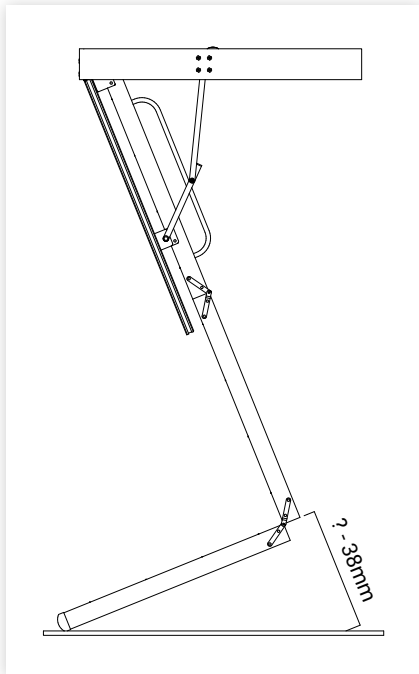

figure 10
1. With the top and middle sections of the ladder open and the bottom section tucked in behind, measure the distance from the bottom of the middle section, to the floor at the same angle as the ladder (figure 10). Do this on both sides.
2. Once you have determined the length of 'x' (figure 10) deduct 38mm. Transfer these measurements to the front of each side of the bottom section of the ladder. Cut at 90 degrees. You may wish to remove the bottom section to complete this step.